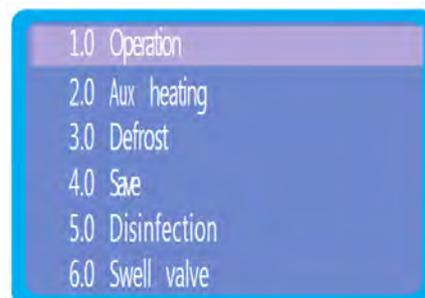

Fig.7
Please see figure 7 for typical discharge arrangement.
- a) be at least one pipe size larger than the nominal outlet size of the safety device unless its total equivalent hydraulic resistance exceeds that of a straight pipe 9m long i.e. discharge pipes between 9m and 18m equivalent resistance length should be at least two sizes larger than the nominal outlet size of the safety device, between 18 and 27m at least 3 sizes larger, and so on. Bends must be taken into account in calculating the flow resistance. Refer to figure 7 and Table 1 below. An alternative approach for sizing discharge pipes would be to follow BS6700:1987 Specification for design, installation, testing and maintenance of services supplying water for domestic use within buildings and their curtilages, Appendix E, section E2 and table 21.
Firstly, from the top-level menu, use the up and down keys to highlight "Parameter" the press the enter key to display the screen shown in figure 7.